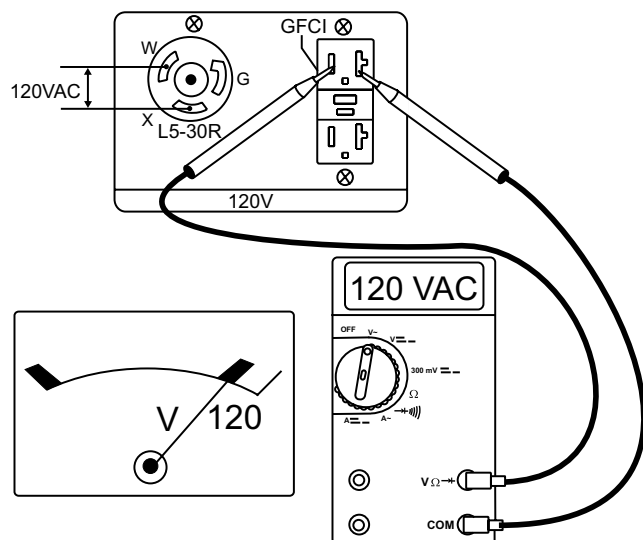

Figure 23. 120V Twist-Lock/GFCI Receptacles
12. Read voltmeter on front panel of generator (Figure 23) and verify that 120 VAC is displayed. Using an external voltmeter as shown in Figure 23, verify that 120 VAC is present at the 120V twist-lock and GFCI duplex receptacles.